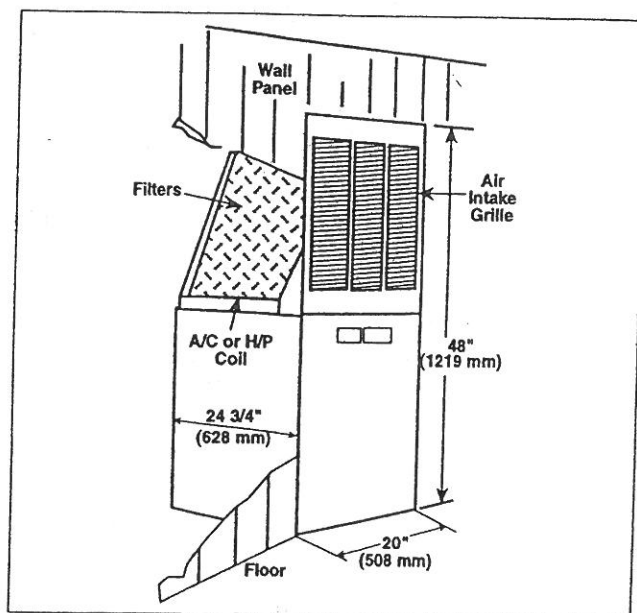

Figure 11. Typical Alcove Installation
1. Cut the alcove opening to the dimensions shown in Figure 11.